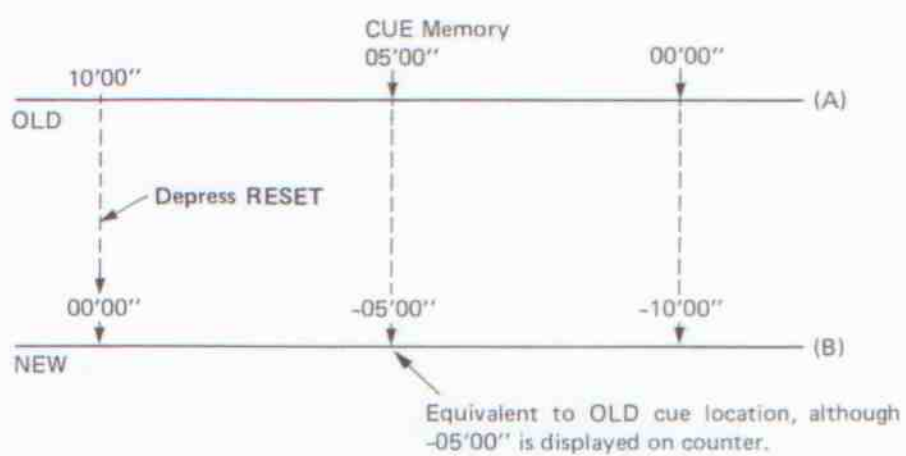

Fig. 5-11.
- * If the CUE button is not pressed in the STC mode, the counter reading of "00:00" is automatically registered as the CUE position. Once the cue point has been registered, it is held until the CUE button is set again, and is not affected by the counter reset button because the relative CUE position is not altered as shown in Fig. 5-11 when the counter reading is changed.